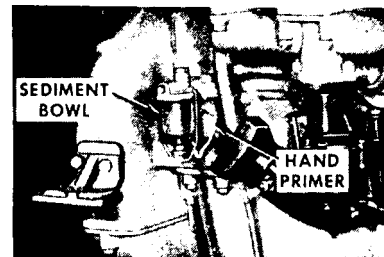

Fig. 2—Fuel Pump Primer
11. **Fill Carburetor:** Use hand primer on fuel pump (Fig. 2 to fill sediment bowl and carburetor. (Note: on some small engines fuel pump does not have hand primer.